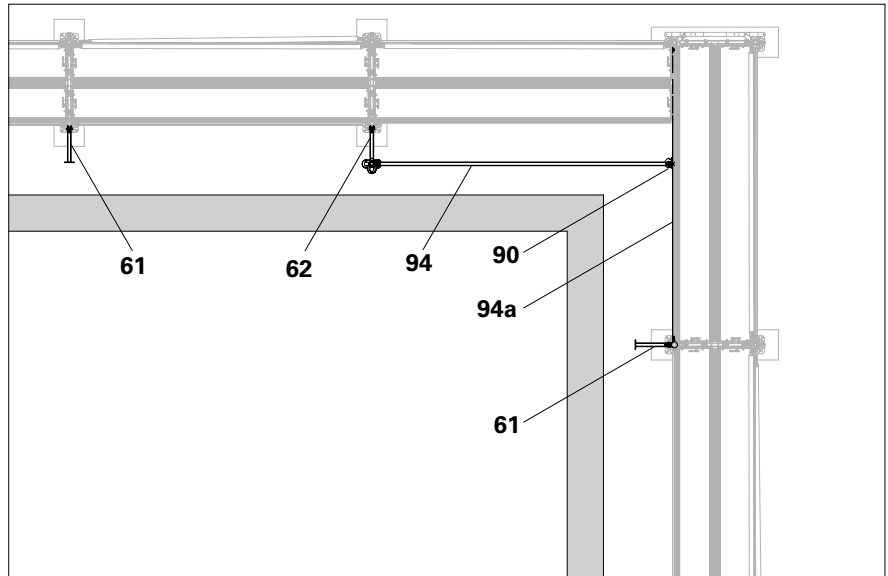

Fig. D1.16
Arrangement in accordance with Fig. D1.16.
3. Fit Horizontal Ledger UH-2 (**94**) onto the Ledger-to-Ledger Coupler UHA-2 (**90**) and Console Bracket ECM 33 (**62**) in the adjacent scaffold bay. Secure the wedges. (Fig. D1.16)